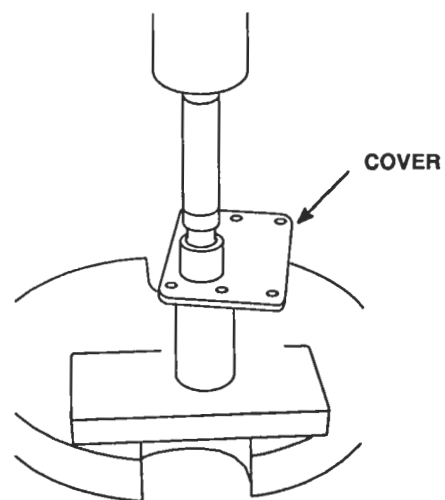

Figure 4. Removing Bearings from Cover
- e. If needle bearing or bushing removal is necessary, place the inner face of the cover over the opening in the bed of an arbor press (Figure 4.) Place remover J 21967-01 on top of the bearing or bushing and under the ram of the press, then press both bearings or bushing out of the cover.